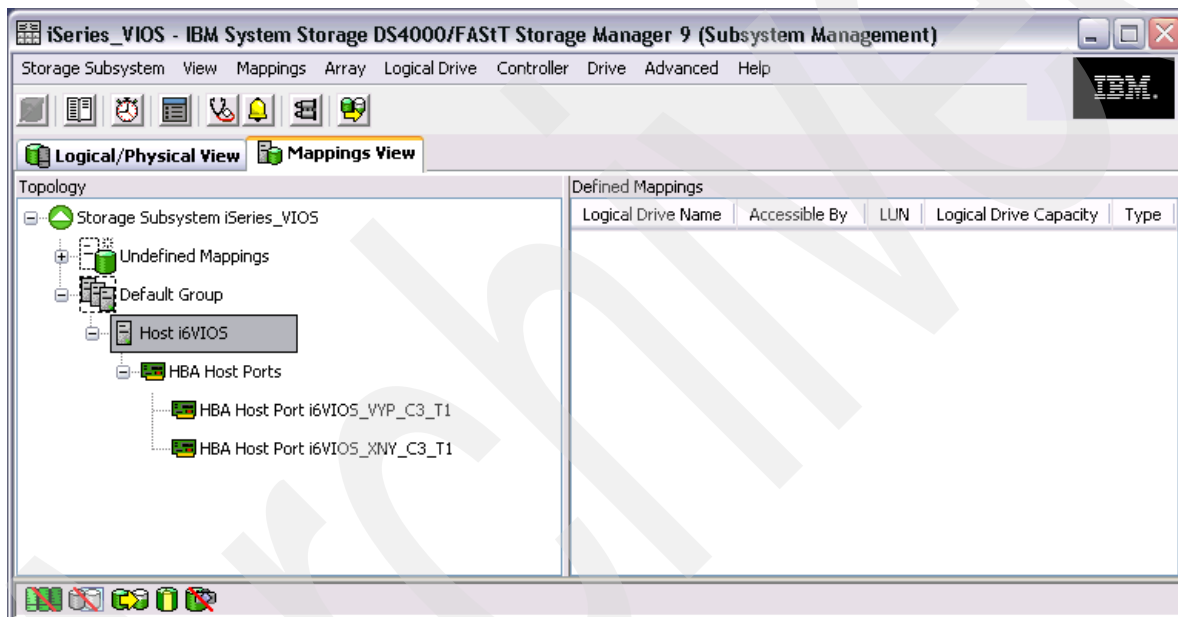

Figure 7-73 DS Storage Manager Mappings View after host definition
14. The newly created host definition for our VIOS host i6VIOS with its two Fibre Channel adapter ports is now listed under the Default Group in the DS Storage Manager Mappings View, as shown in Figure 7-73.